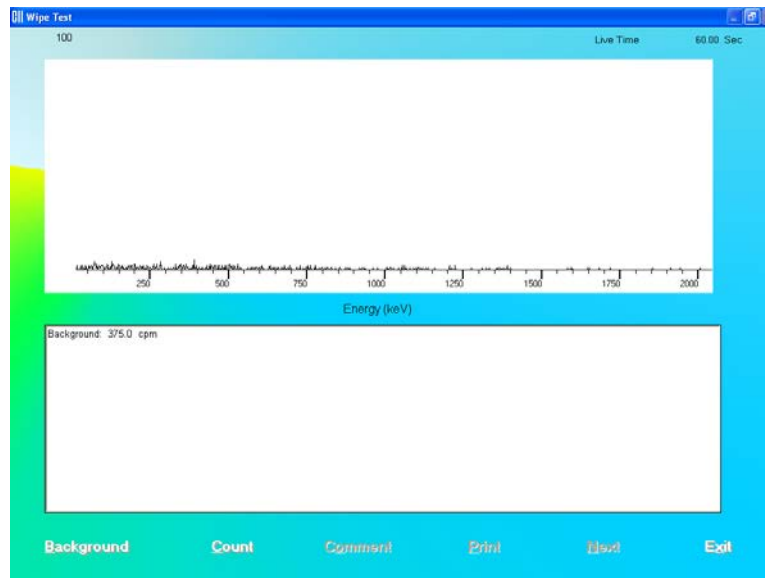

Figure 8-19
- Once the background measurement is completed, the spectrum and the background total count are displayed as shown in Figure 8-19.